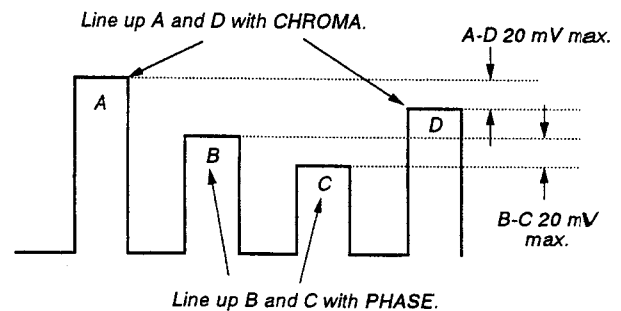

Fig. 19
- 4) Adjust **[B-Y PHASE NTSC 443]** and **[CHROMA NTSC 443 NOR]** so that the tracking is normal and the tops of the waveform line up. (Fig. 19)